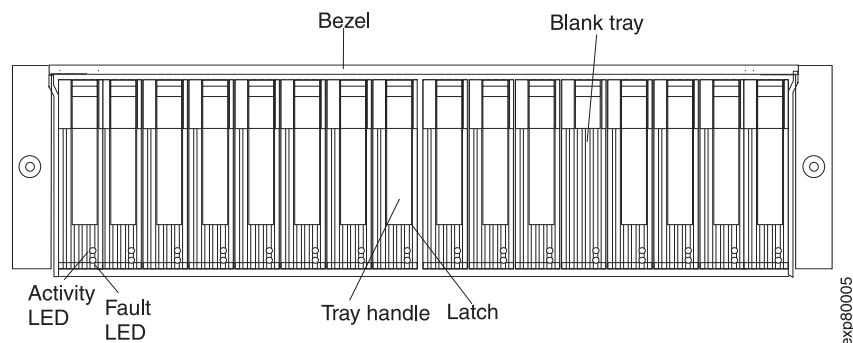

Figure 44. Hot-swap EV-DDM LEDs
2. Check for Fault LEDs shown in Figure 44. If any amber LEDs are lit, see “Solving problems” on page 101.